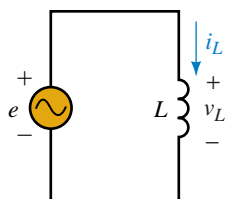

FIGURE 16-53
21. For Figure 16-53, $V_m = 10$ V and $I_m = 5$ A. For each of the following, determine the missing quantity:
23. For Figure 16-53, $e = 100 \sin \omega t$ and $L = 0.5$ H. Determine i_L at
24. For Figure 16-53, let $L = 200$ mH.
39. **PSpice** Create the circuit of Figure 16-53 on the screen. Use a source of $100 \text{ V} \angle 0^\circ$, $L = 0.2 \text{ H}$, and $f = 50 \text{ Hz}$. Solve for current I_L (magnitude and angle). See note below.